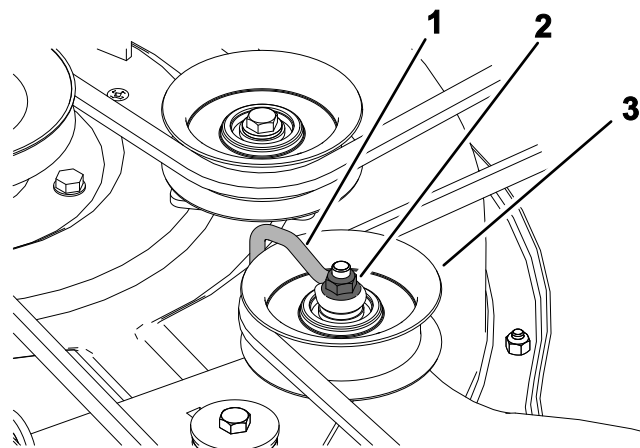

Figure 57
6. For stamped decks, loosen the nut securing the wire form to the idler pulley (Figure 57).
Note: Position the wire form against the idler arm as shown in Figure 57.